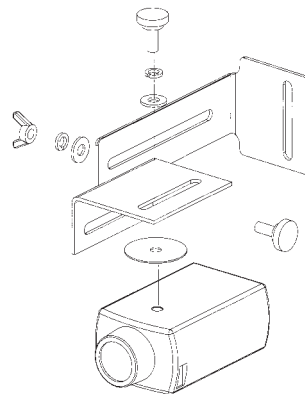

Figure 2
10. Adjust camera bracket to proper angle and mount camera to camera bracket. See Figure 2.